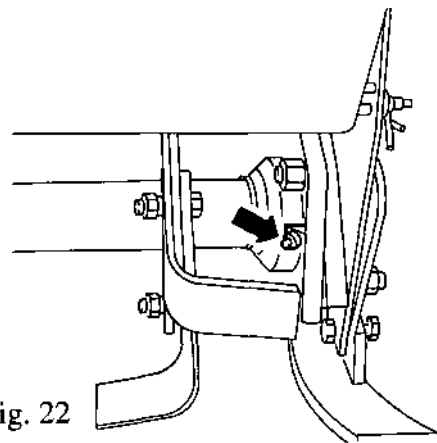

Fig. 22
- 4 Rotor Shaft Bearing - Apply 2-3 shots of grease to grease fitting at right end of rotor shaft using hand pump grease gun (Fig. 22)